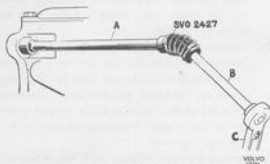
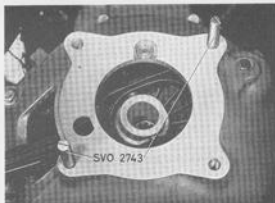

Fig. 4-27. Removing gearbox bolts
Fig. 4-43. Guide pins for gearbox
6. Slacken the right upper and left lower gearbox bolts with spanner 2487, flexible joint 2427, extension piece with 3/8" square end and ratchet handle, see Fig. 4-27. Fit two guide pins 2743, see Fig. 4-43. Slacken the other two bolts. Pull out the gearbox backwards and lower it.
Make sure that guide pins 2743 are fitted acc. to Fig. 4-43. Installing is done in the reverse order to removing. Fill up the gearbox with oil.